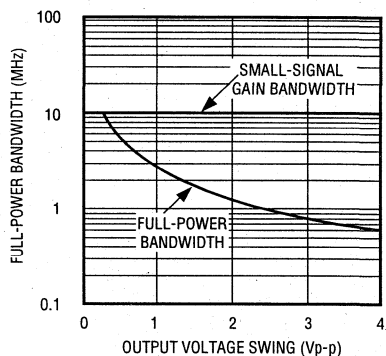

Figure 6. Full-Power Bandwidth vs. Peak-to-Peak AC Voltage
where the slew rate (SR) is 15V/ μ s min. Figure 6 shows the full-power bandwidth as a function of the peak-to-peak AC output voltage.